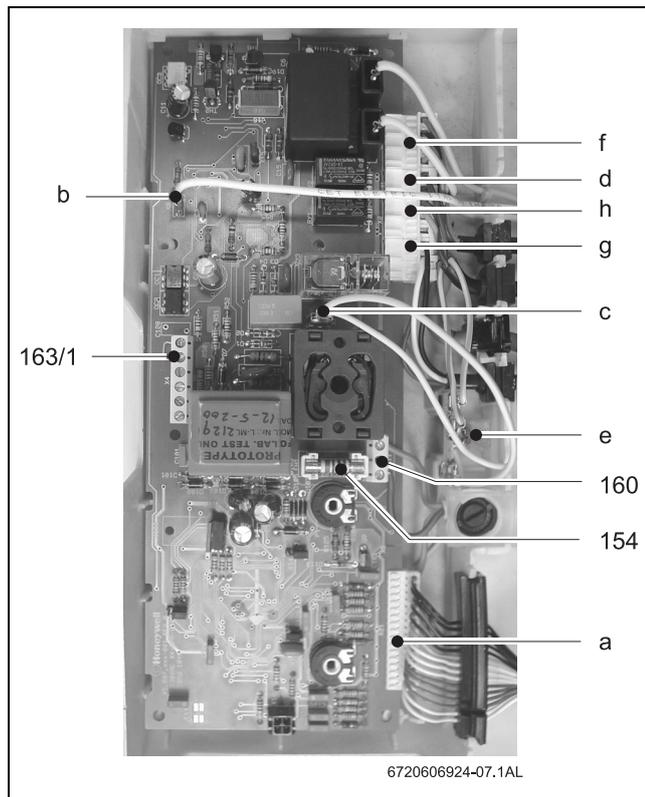

Fig. 13
- ▶ Enlever le shunt 1-4 (Fig. 13, pos.163/1).